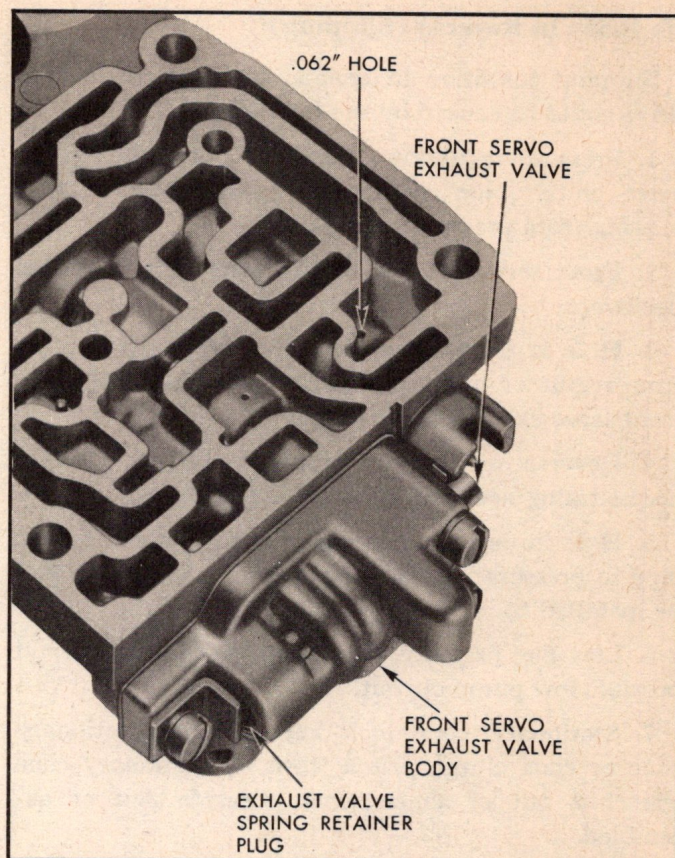

Fig. 322—Outer Valve Body (Manual lever in reverse)
3. If a binding condition still exists between the manual valve and front servo exhaust valve the front servo exhaust valve spring retainer plug (Fig. 322) may be pushed in too far, preventing the valve from having enough travel when the manual lever is shifted from reverse to drive. This can be corrected by carefully tapping the exhaust valve against the plug to push it out slightly.
Remove valve body and thoroughly clean outer valve body. Make sure .062" drilled hole (Fig. 322) supplying oil for rear servo release is unobstructed. If the hole is not drilled install a new control valve assembly.
3. Check front servo exhaust valve (Fig. 322) for proper fit in exhaust valve body (.002" clearance). If too loose, front servo oil will leak past valve into reverse apply circuit.